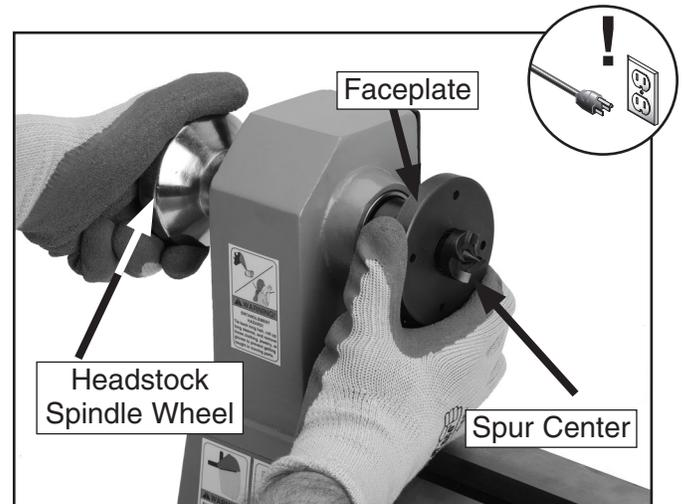

Figure 16. Removing spur center.
2. Hold the headstock spindle wheel securely while turning the faceplate counterclockwise until the spur center is forced out of the headstock spindle (**Figure 16**).